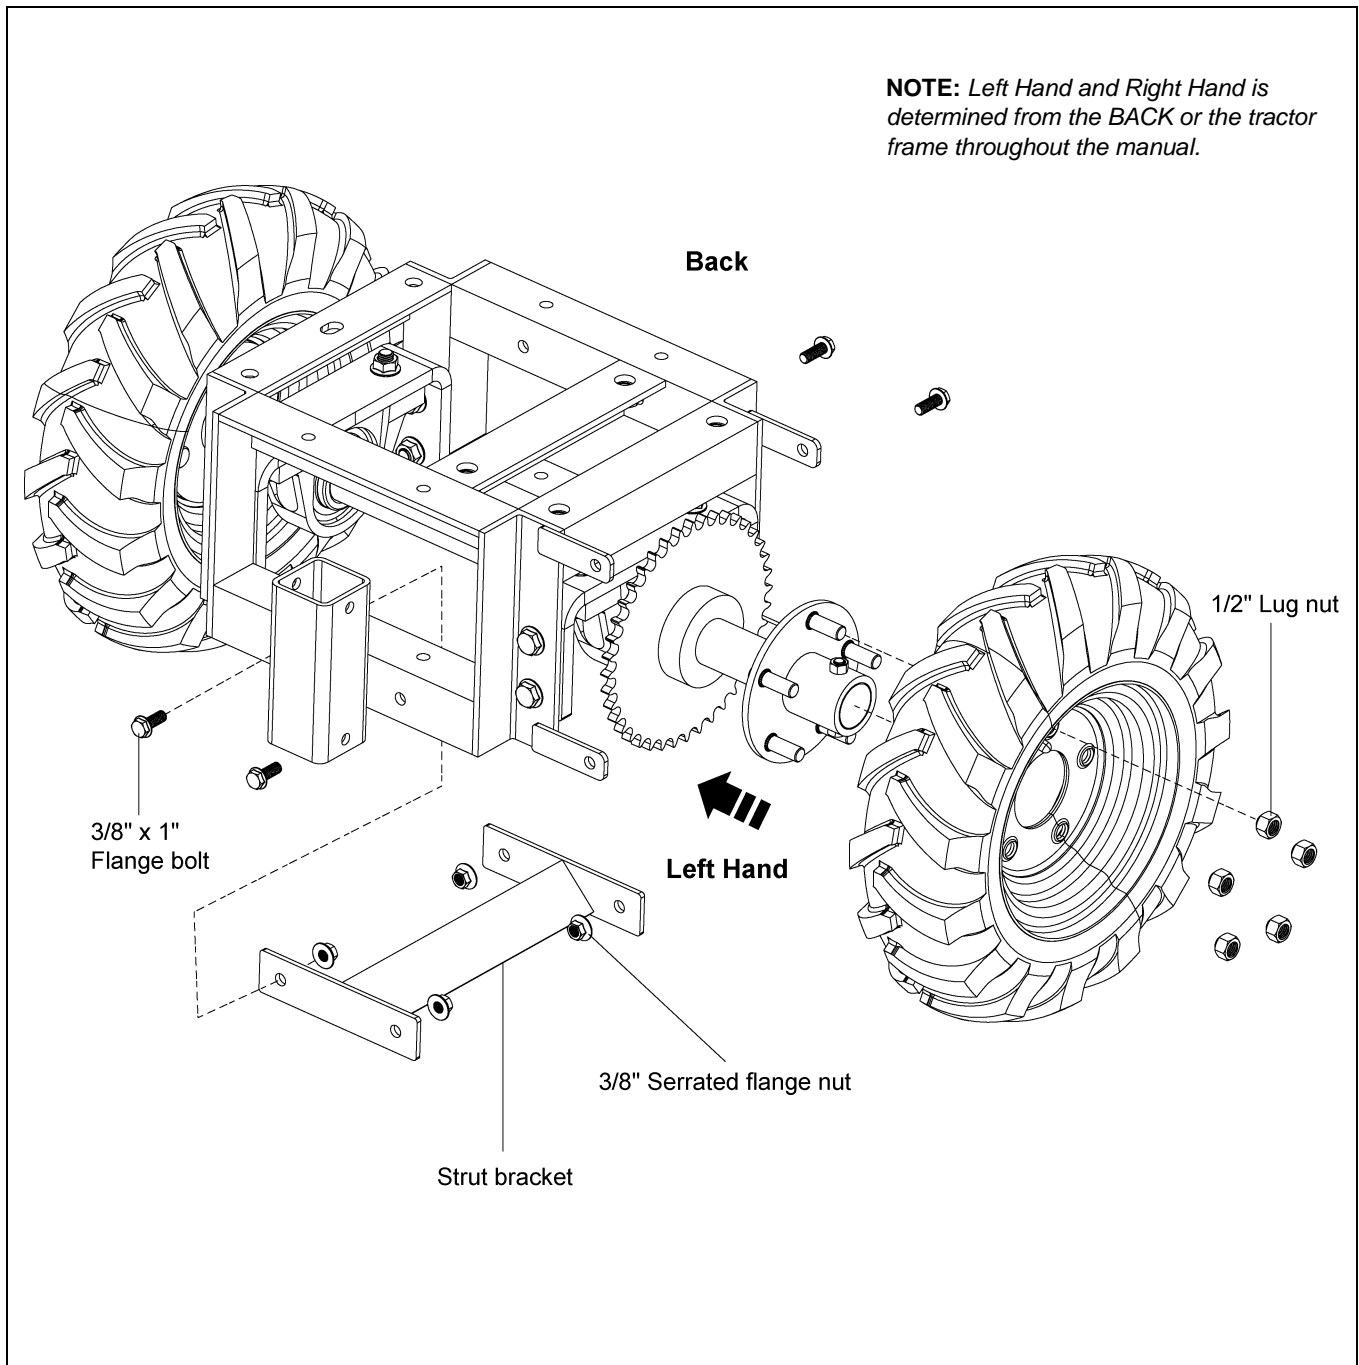

Figure 4C
NOTE: Make sure that the tires are assembled on corresponding sides with the help of valve stem. The valve stems should point away from the tractor frame. Remove the screws or nails that are present in the tires to contain the foam in the tires when they are made. The treads of the tires should be in the forward direction. *Figure 4C* shows the proper orientation of the tire and wheel assemblies.
- Assemble the strut bracket to the tractor frame using four (4) 3/8"-16 x 1" flange bolts and serrated flange nuts. (See *Figure 4C*.)